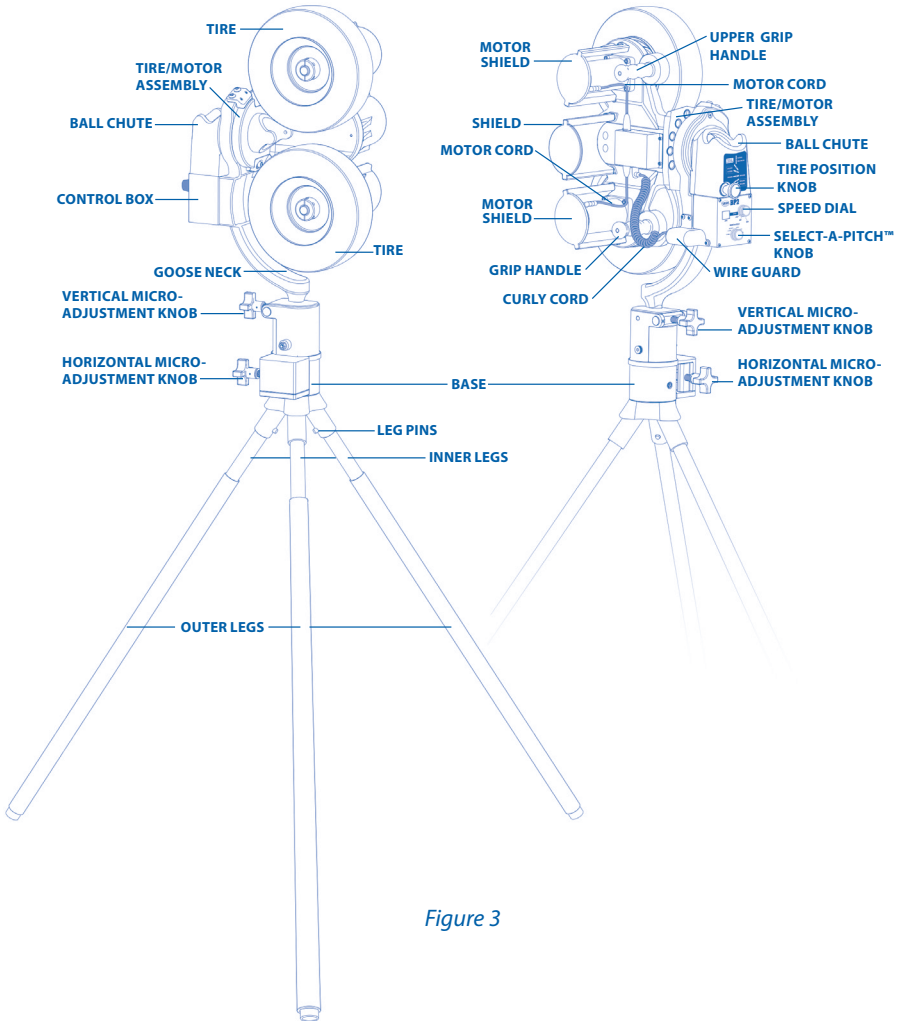

Figure 3
- Make sure you have all the parts (See Figure 3). If any parts are missing, do not operate the machine until the missing parts are replaced. Failure to do so could result in possible serious personal injury.